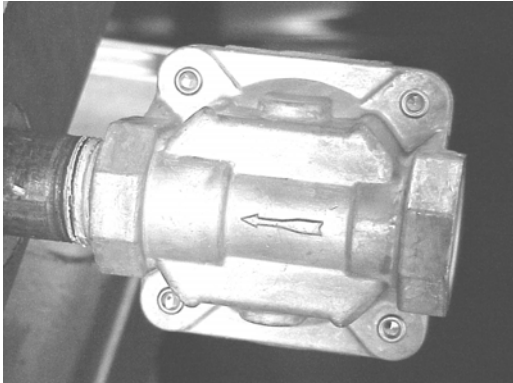
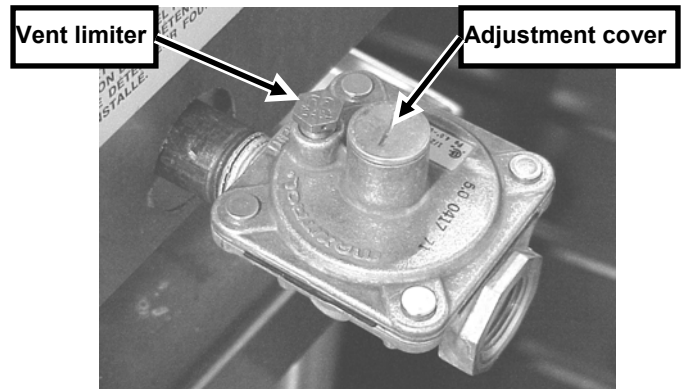

Fig. 3
Fig. 4
direction of gas flow to the broiler (Fig. 3) and the regulator is positioned with the vent limiter and adjustment screw cover upright (Fig. 4). The vent limiter should be kept free of grease and debris to prevent clogging and poor performance.
1. Remove adjustment cover. See Fig. 4.